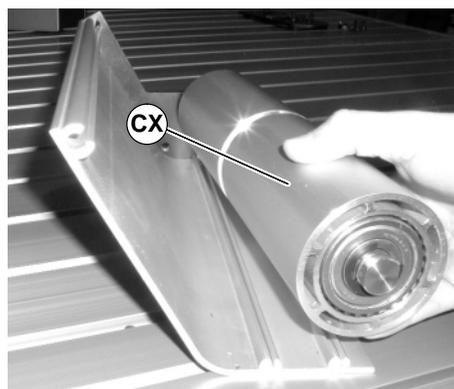

Figure 90
5. Slide the idler pulley assembly (CX of Figure 90) out of the idler guide side plate on the opposite side.